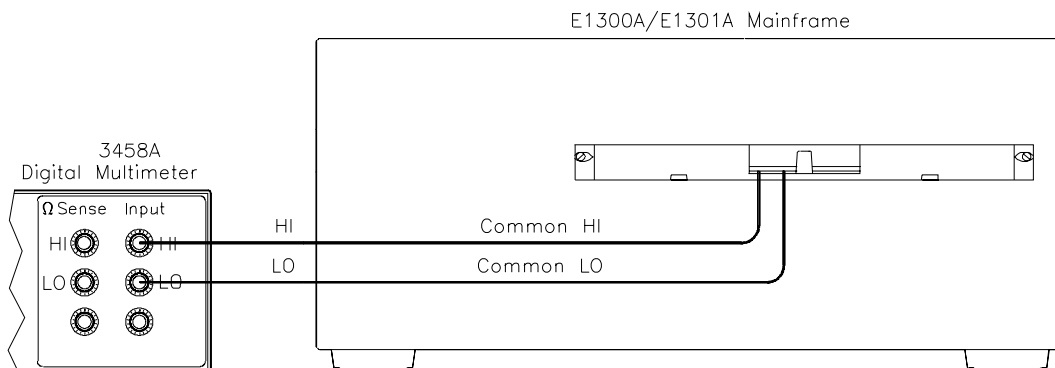

Figure 2-10. HI to LO Isolation Connections
1. Make hardware connections as shown in Figure 2-10